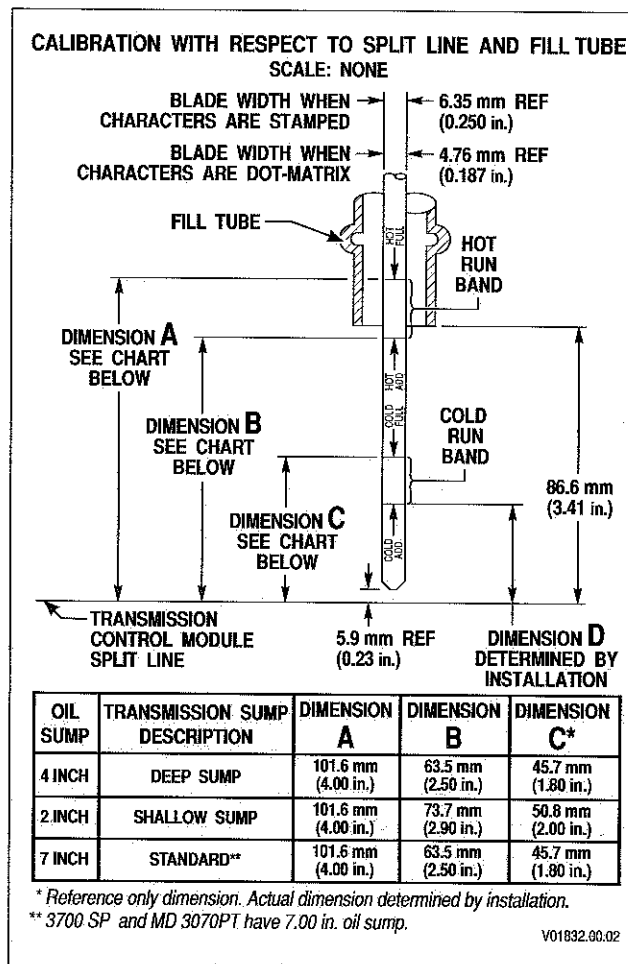

Figure 2-1. Fluid Dipstick Markings
## 2-7. COLD CHECK (Figure 2-1)
### 2-8. HOT CHECK (Figure 2-1)
5. If the fluid level is not within the "HOT RUN" band, add or drain as necessary to bring the fluid level to within the band. Safe operating level is within the "HOT RUN" band on the dipstick (refer to Figure 2-1).